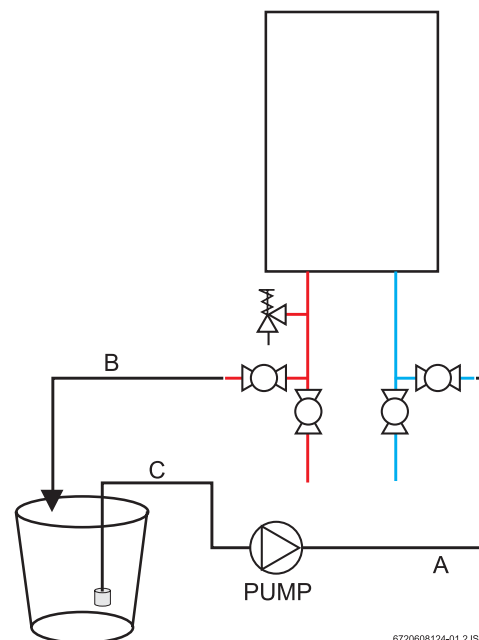

Fig. 52
5. Connect a line (A) from the outlet of the circulating pump (installer supplied) to the inlet water fitting on the water heater (see Fig. 52).
6. Using another line (B), connect to the water outlet fitting on the water heater. Route the other end of this line into a descaling reservoir.
7. Using a 3rd line (C) from the descaling reservoir, connect to the inlet side of circulating pump. Install a filter on the end of this line in the descaling reservoir.